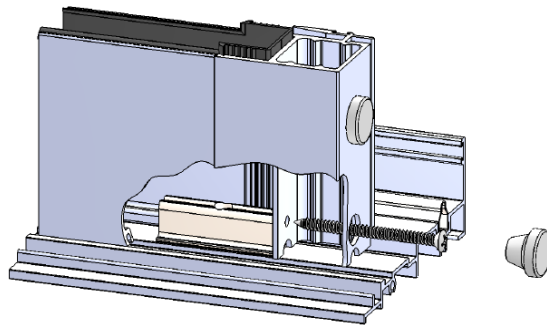

Figure 15:
7. Remove the bottom panel plug. Insert (1) #10 x 3" pan head screw through the fixed interlock stile and into the sill block (Figure15). Reinstall the panel plug.